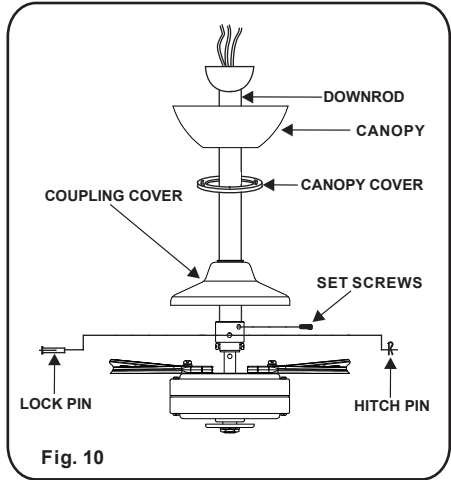

Fig. 10
Step 5. Slip coupling cover, canopy cover and canopy onto downrod. (Fig. 10) Carefully reinstall hanger ball onto rod being sure that cross pin is in the correct position, set screws are tighten and wires are not twisted.